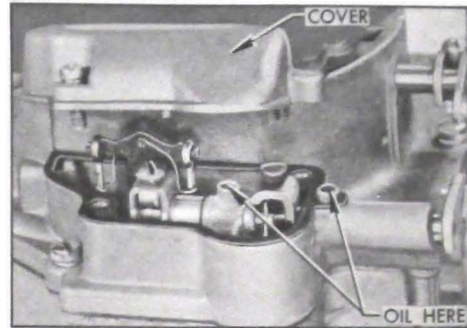

Figure 1-12—Countershaft Lubrication—Carter 4-Barrel
4. *Pump Operating Countershaft — Carter Carburetor Only.* On both 2-barrel and 4-barrel carburetors, remove dust cover and apply oil in two oil holes above countershaft. See figure 1-12.